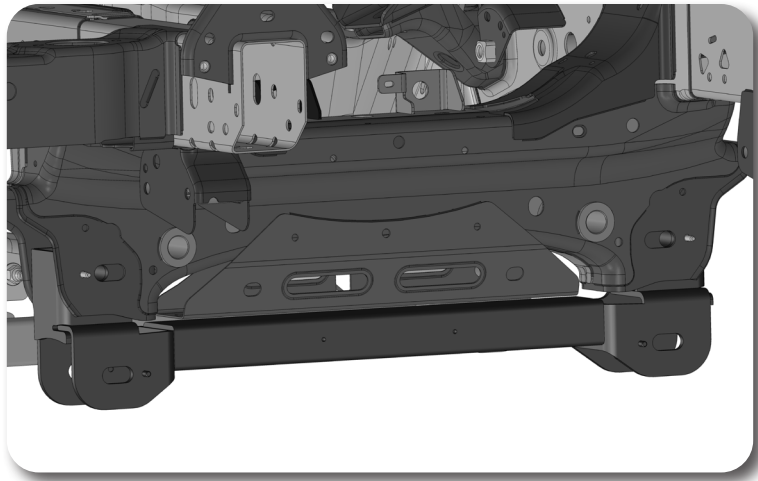

Figure 26
36. Install the front cross member in the control arm pockets with the provided shorter 18mm bolt, prevailing torque nuts, and washers Run bolts from front to rear **Fig. 26**. Leave hardware loose.